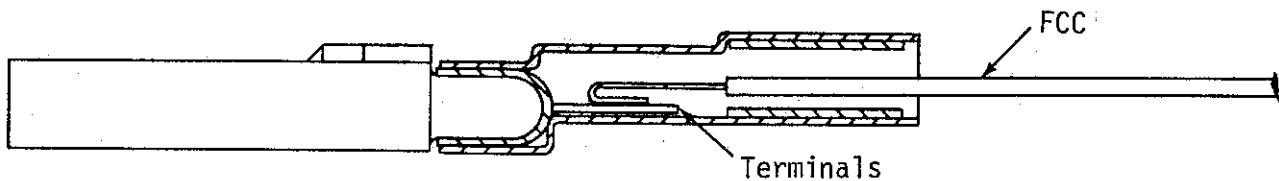

Figure 11. FCC Inserted Into Boot of Insert
1. Insert the prepared FCC into the insert boot (Figure 11).